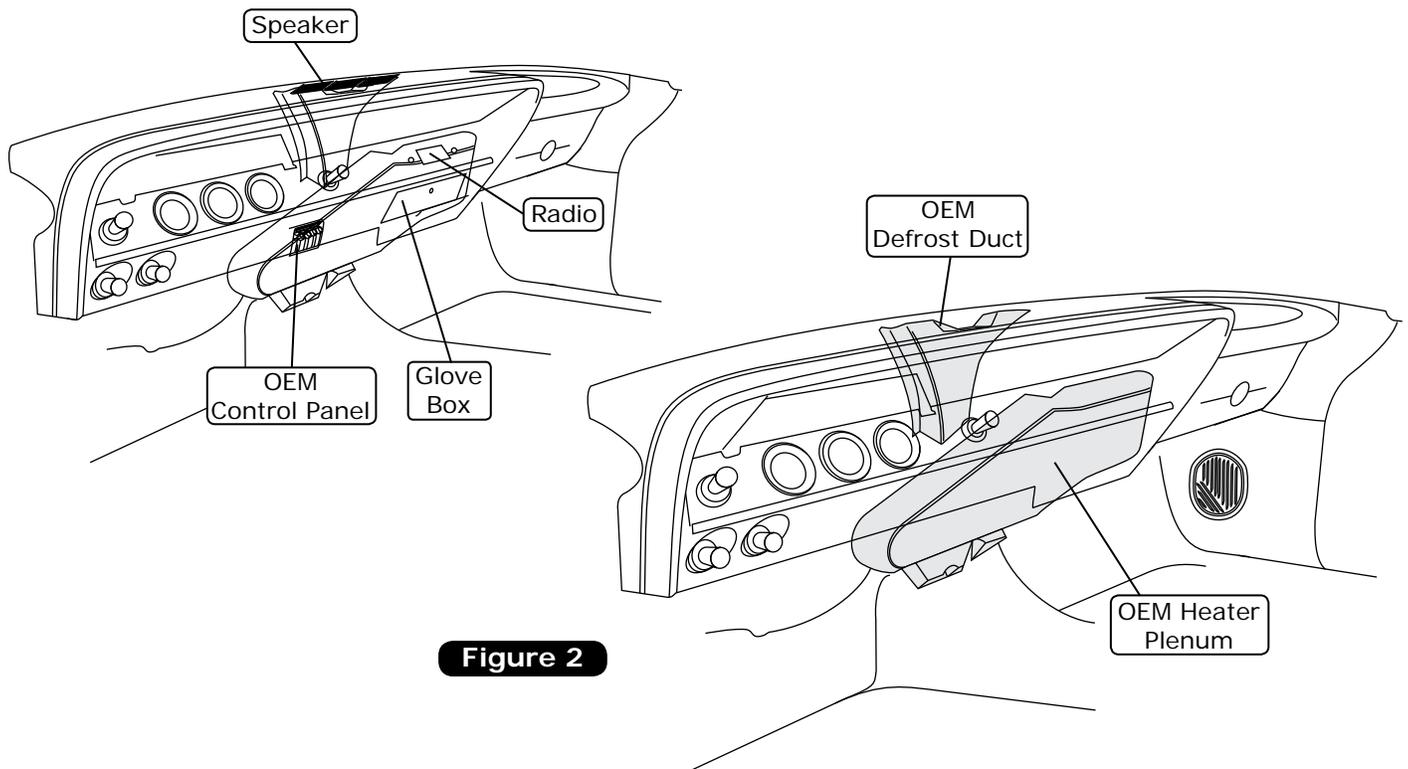

Figure 2
1. Remove the OEM control panel assembly (retain) (See Figure 2, below).
2. Remove the OEM heater assembly (discard) (See Figure 2, below).
3. Remove the glove box (discard) (See Figure 2, below).
4. Remove the radio and speaker (retain) (See Figure 2, below).
5. Remove the OEM defrost duct assembly (discard) (See Figures 2 & 3, below).